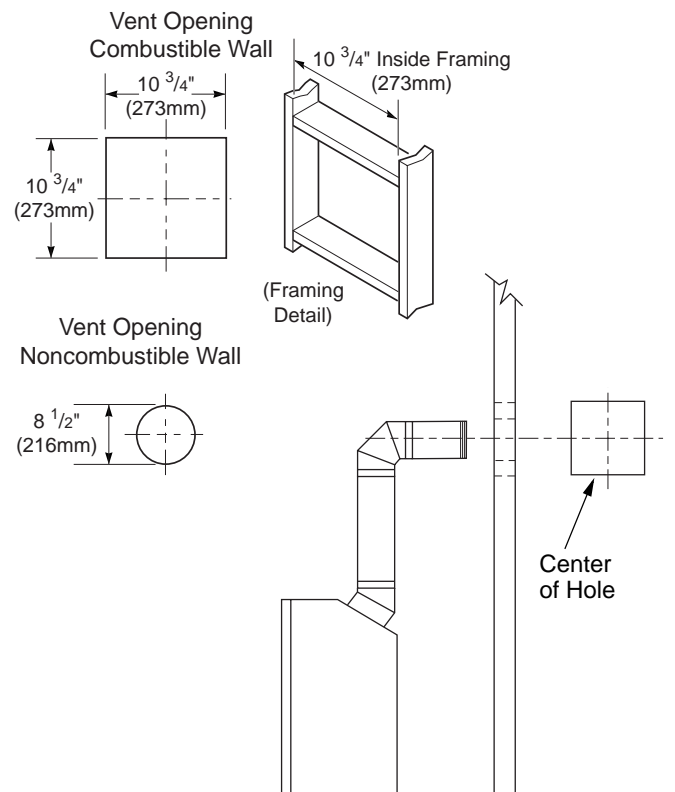
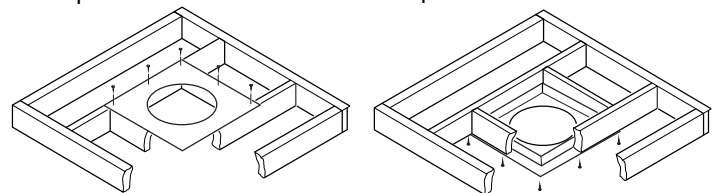

Figure 9 - Vent Opening Requirements
Figure 20 - Installing Firestop
5. Carefully determine the location where the vent pipe assembly will penetrate the outside wall. The center of the hole should line up with the center-line of the horizontal vent pipe. Mark the wall for a 10³/₄" x 10³/₄" square hole. Cut and frame the square hole in the exterior wall where the vent will be terminated. If the wall being penetrated is constructed of noncombustible material, such as masonry block or concrete, a 8¹/₂" hole with zero clearance is acceptable (see Figure 9).
1. Cut a 10³/₄" square hole in the ceiling using the locating hole as a center point. The opening should be framed to 10³/₄"x10³/₄" (273 mm x 273 mm) inside dimensions, as shown in Figure 9 on page 8 using framing lumber the same size as the ceiling joists. If the area above the ceiling is an insulated ceiling or a room, nail firestop from the top side. This prevents loose insulation from falling into the required clearance space. Otherwise, install firestop below the framed hole. The firestop should be installed with no less than three nails per side (see Figure 20).
3. Cut a hole in the roof using the locating hole as a center point. (Cover any exposed open vent pipes before cutting hole in roof.) The 10³/₄"x10³/₄" hole must be measured on the horizontal; actual length may be larger depending on the pitch of the roof. There must be a 1" clearance from the vent pipe to combustible materials. Frame the opening as shown in Figure 9, page 8.